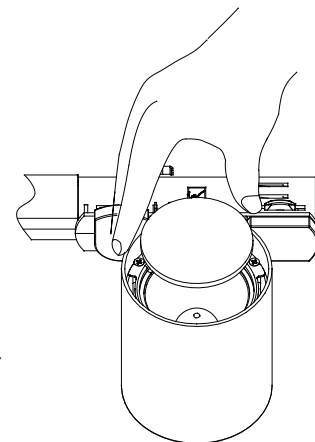

Fig.10
Step 3: Replace existing lens with new lens. (See **Fig 10**)